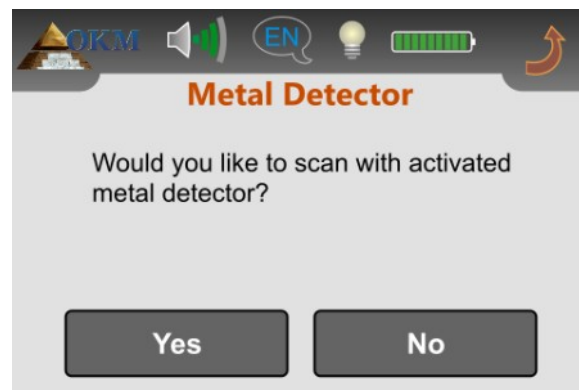

Figure 9.6: Activate metal detector in operating mode "3D Scan"?
Now go to point ❶ of the field and select the "3D Scan" operating mode from the main menu. You will see the screen from figure 9.6 on your display. There you can choose whether to use the metal detector during the measurement or not.